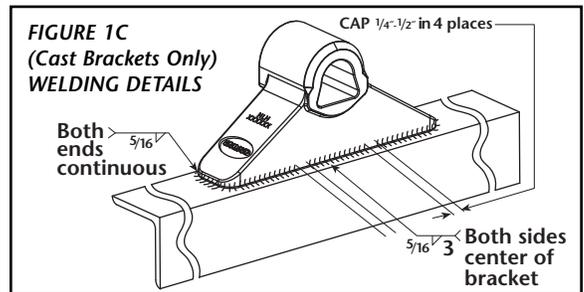

FIGURE 1C (Cast Brackets Only) WELDING DETAILS
- E. For **cast** brackets (single piece), weld with 5/16" fillet weld, as shown in *Figure 1C*. The welds must be continuous around the bracket ends.